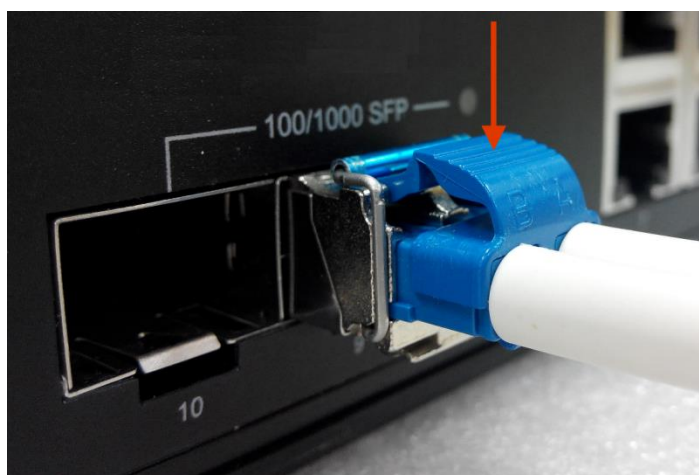

Figure 2.12: Remove LC Connector
Step 1. Press the upper side of the LC connector from the transceiver and pull it out to release as shown below in Figure 2.12